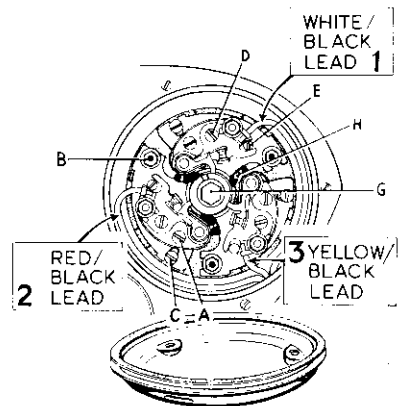

FIGURE 14.
#### Contact Breaker (Fig. 14)
The spark timing for each cylinder is checked and adjusted separately, that for the right side cylinder being controlled by the contact breaker assembly No. 1, Fig. 14, for the left side cylinder by assembly No. 3, and for the center cylinder by assembly No. 2. To avoid incorrect assembly, the leads are colored to suit the different contact breakers as indicated in the illustration.
To adjust the contact breaker assembly for, say, the center cylinder, slacken the screw (A) and pillar bolt (B) Fig. 14, which secure the assembly to the back plate, and adjust the eccentric pin (C).
Next, fix the auto-advance mechanism in the fully advanced position, as follows: Remove the center bolt (G) Fig. 14, and replace its washer with another having a hole just large enough to fit over the cam bearing, to allow the washer to press against the side of the cam. Replace the bolt, but before tightening, rotate the cam to its limit in a clockwise direction, hold in position and tighten the bolt.
Check that the contact points in the No. 2 assembly, Fig. 14, are just opening. If incorrect, slacken the screw (A) and pillar bolt (B) and adjust the eccentric pin (C) until this condition is obtained. Firmly retighten (A) and (B).